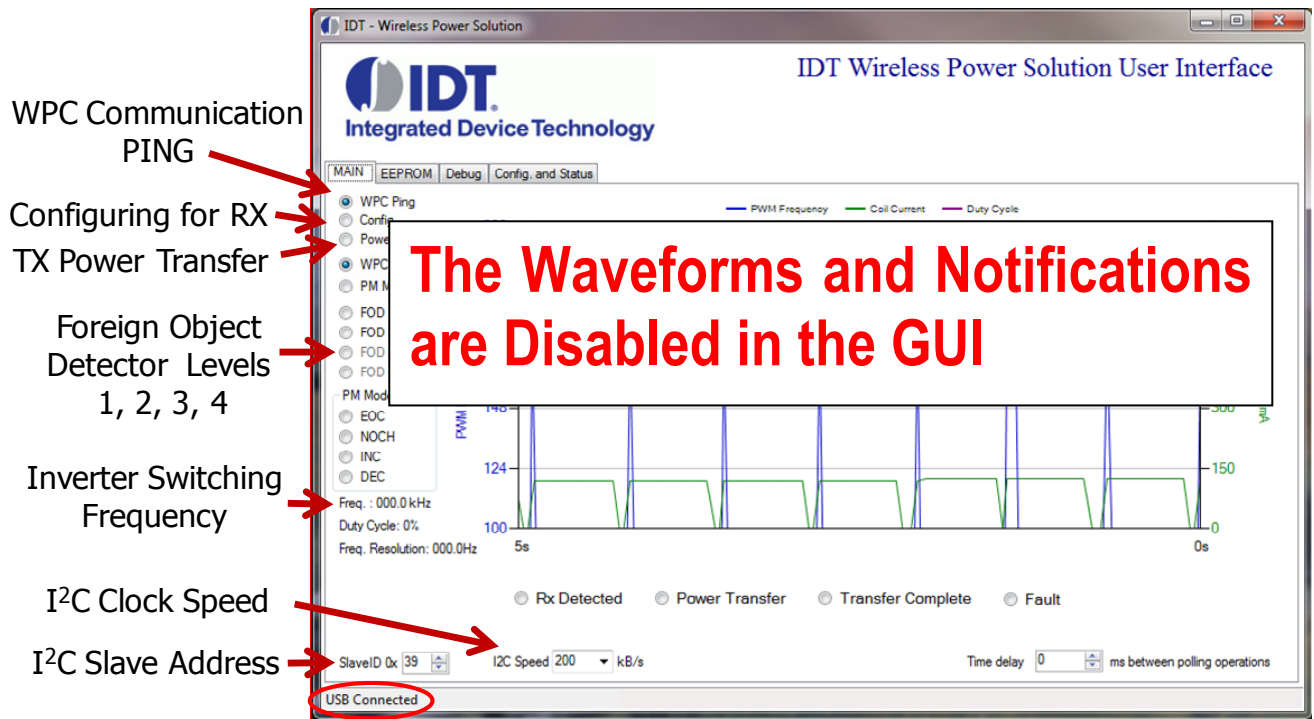

Figure 21. Windows GUI Main tab
6. Without an RX load on the coil, note which LEDs are lit up on the eval board. Now place a load onto the coil and observe the different LEDs that light up depending upon where the RX load is placed onto the coils. The LEDs are defined in Figure 5. Also observe the different real time signals propagating on the GUI (Figure 21). Any problems see Troubleshooting page 19.
You can verify that the IDTP9036A is properly connected to your computer and able to communicate with the evaluation board by looking at the lower left of Figure 21. It should state “USB Connected”. Otherwise it will state in Red letters: “USB Disconnected – Check Connection”.
- 2) Placing different Rx objects and loads onto the coils will change the real time signals, and it will change the location of the Blue “dot” at the left side of the GUI’s MAIN tab (Figure 21). For example, when the system is first turned-on, and without a load on the coil, the Blue “dot” will flash, i.e. “ping”, at the WPC Ping text location, at the very top left hand side of GUI. Then, when a load is placed on the coil, the flashing Blue “dot” at WPC Ping will cease and a solid Blue dot will appear at the Power Transfer Line text location on the left hand side of the GUI. Also, it should be noted that the red LEDs D3 and D4 will flash on/off on the eval board without an RX. Note, however, that if the load is connected to one of the three coils, the red LEDs will turn on as shown in Figure 5 and Table 1. Also, once the RX has established good communication with the evaluation board, the Rx Detected and Power Transfer “non flashing” solid Blue dots located just below the real time signals on the MAIN tab of the GUI will appear, Figure 21. Moving the RX on the coils will change the Coil Selection LEDs as shown in Table 1.